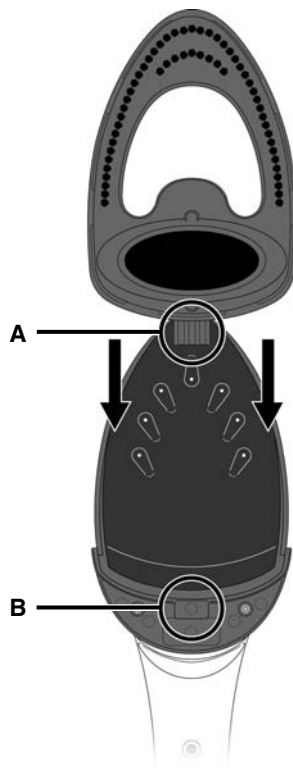

FIGURE 6
1. Slide Fabric/Lint Brush over Ironing Plate as shown (FIGURE 6). Press it firmly on until hook on bottom of Fabric/Lint Brush (FIGURE 6-A) catches onto tab below Ironing Plate (FIGURE 6-B). Fabric/Lint Brush should now be secured in place.